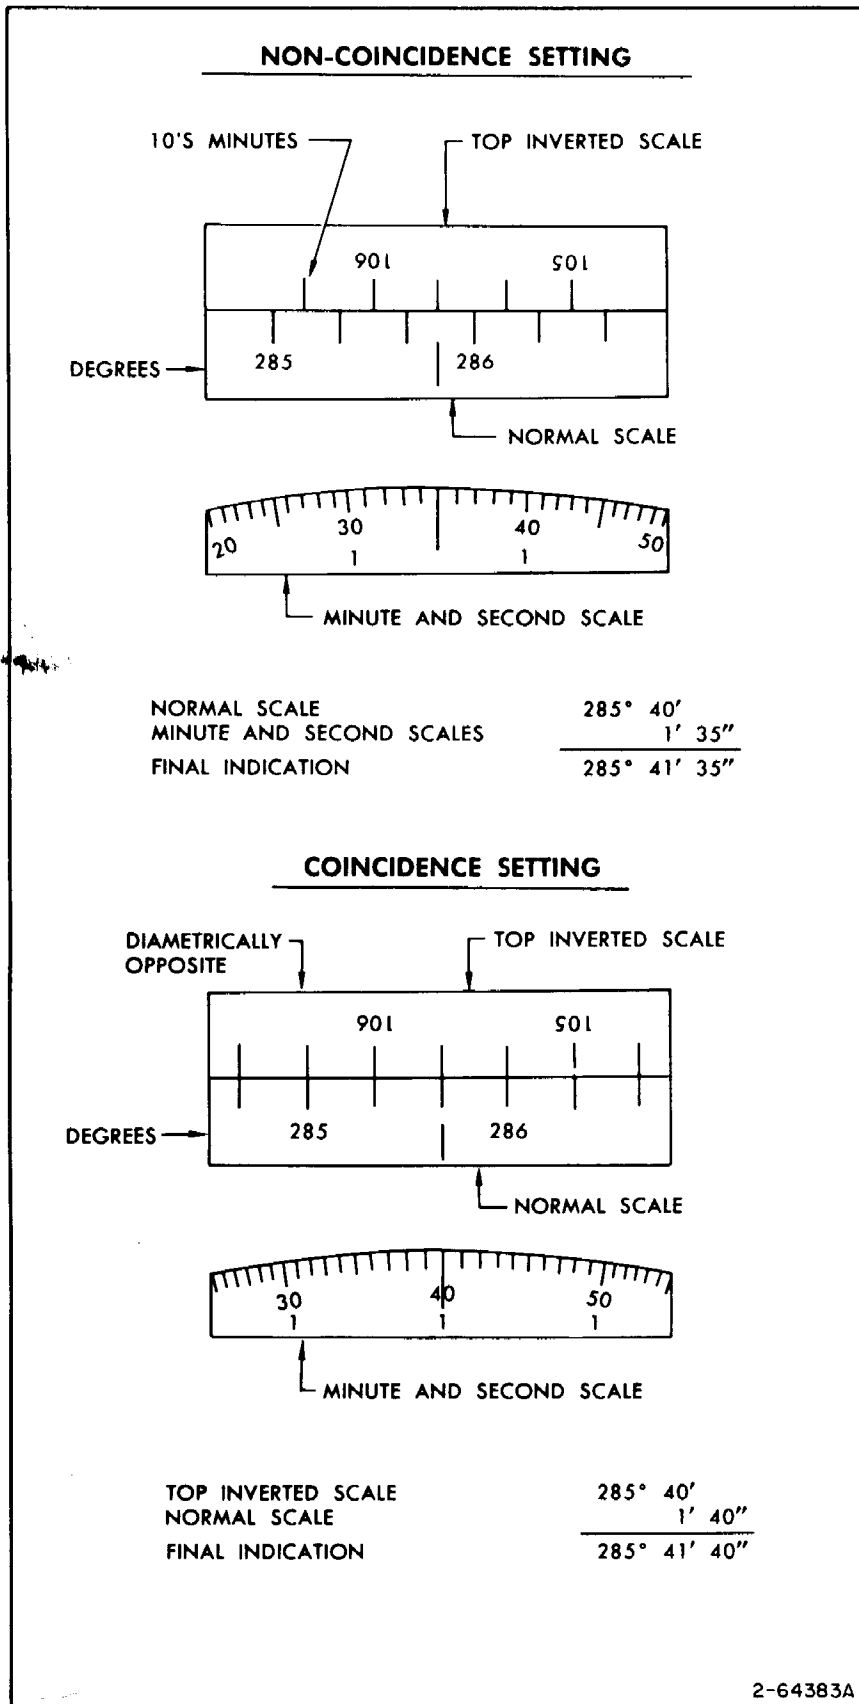

Figure 4-4. Reading Horizontal Scales
4-14. INTERPRETATION OF HORIZONTAL SCALES. Two separate images are clearly visible when viewed through the microscope eyepiece (3, figure 4-3). The two scales of the upper image are diametrically opposite for reading the degrees and tens of minutes. The lower image or scale indicates minutes and seconds. (see figure 4-4.) To obtain an indication from the horizontal scales, a coincidence setting must be made. This setting is obtained when the graduations on the upper half-image appear in exact prolongation of those of the lower half-image. The vertical fixed line in the center of the upper image is used as an aid in obtaining coincidence. The angle indicated by the theodolite is that number on the lower-image which is at, or to the left of, the center vertical fixed line and in exact prolongation of a graduation mark on the upper-half image. From the graduation mark above the angle on the upper-half image, the number of graduations counted to the division that is diametrically opposite the angle (angle minus 180 degrees) is multiplied by 10 to give the number of minutes to be added to the angle. Next, the number of minutes and seconds, indicated by the lower image and using the vertical fixed line as a reference is added to the angle. The sum of the degrees and minutes from the upper image and the minutes and seconds from the lower image as obtained above, is called the theodolite heading. To set a known bearing into the theodolite, the coincidence setting control (1, figure 4-3) is adjusted to indicate the number of minutes; then, the horizontal scale control (4) is adjusted to obtain coincidence at the desired number of degrees and tens of minutes. The final adjustment of the coincidence setting should always be in the clockwise direction.